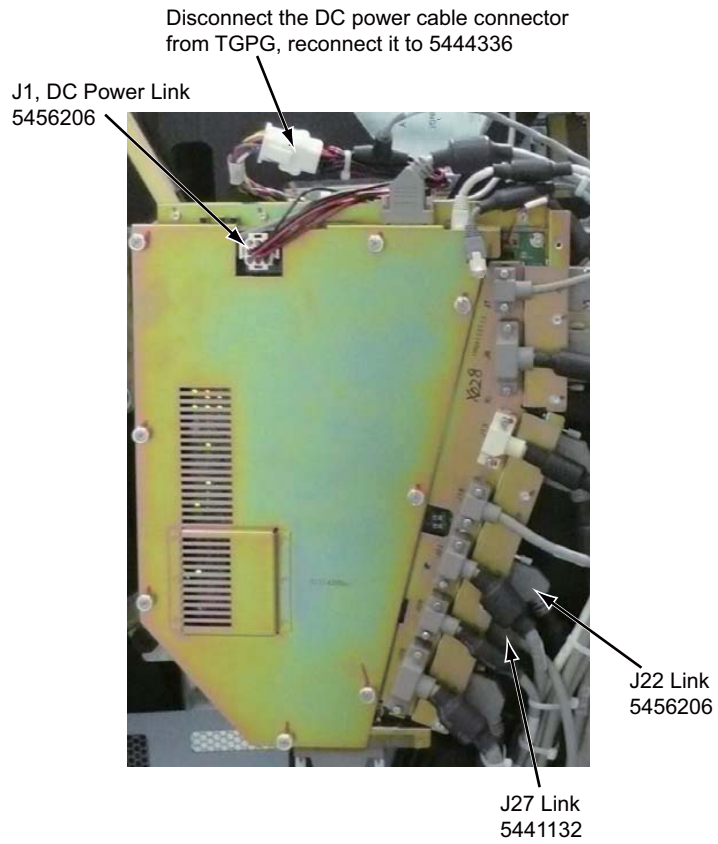

Figure 2-13 TGPG Connection
- 3.) Connect the Cardiac/Pulmonary Pathfinder cable (5456206) between the IPC board J13 and the TGPG J22. (See Figure 2-10 and Figure 2-13)
- 4.) Connect the Smart Step cable (5441132) between the TGPG J27 and the Left/Right Accessory Panel. (See Figure 2-10 and Figure 2-13)
- b.) Disconnect the 24V power cable (5432016-2) connector from the TGPG board J1 and connect it to the IPC power cable (5444336) A2. (See Figure 2-11 and Figure 2-13)
- c.) Connect the IPC power cable (5444336) A1 connector to the TGPG board J1. (See Figure 2-13)